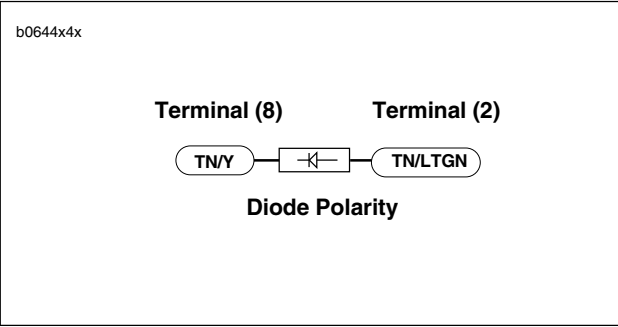

Figure 7-11. Diode Polarity
- 2. Check diode polarity as shown in Figure 7-11.